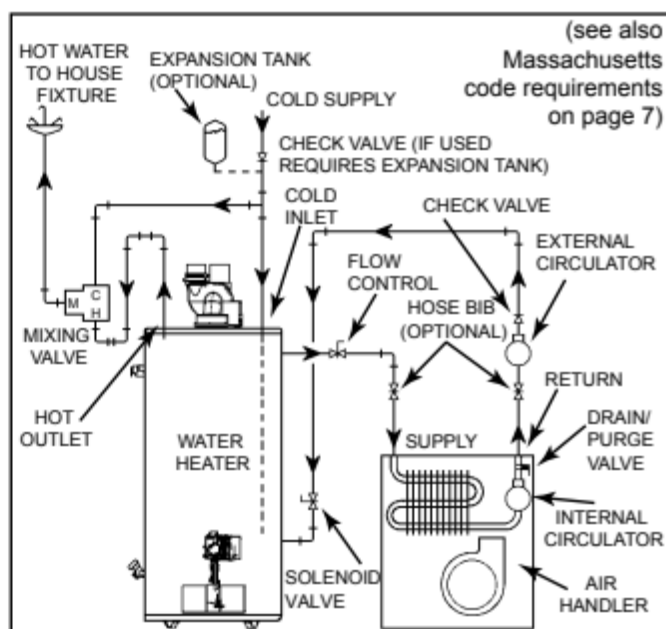
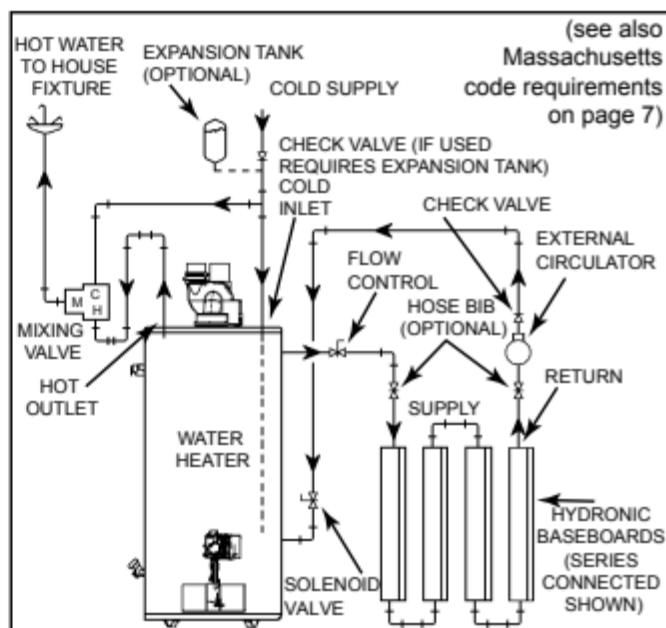

Figure 22.
Figure 23.
8. "Combo" Heating Systems require higher water temperatures than other applications. When the system is used to supply water for Combo Heating applications, a means, such as mixing valve, must be installed to temper the water in order to reduce scald hazard potential (see Figure 22 & Figure 23).
- A. A fan coil/air handler (Figure 22).
- B. A hydronic baseboard (finned tube) loop/In floor heating (Figure 23).